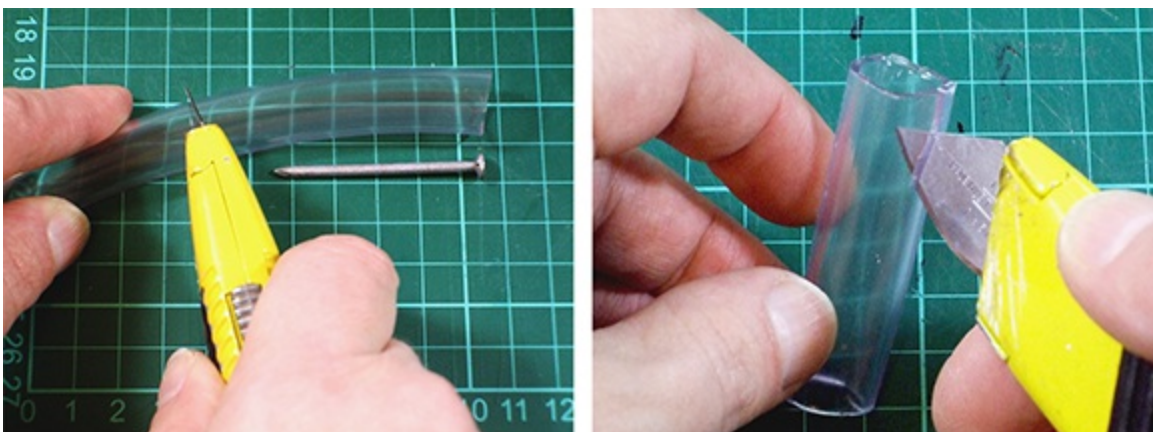

Figure 10-4: Cutting your vinyl tube mold.
1. Cut a small section of the large vinyl tube, about 2cm (a half-in.) longer than your nails, as shown in Figure 10-4.